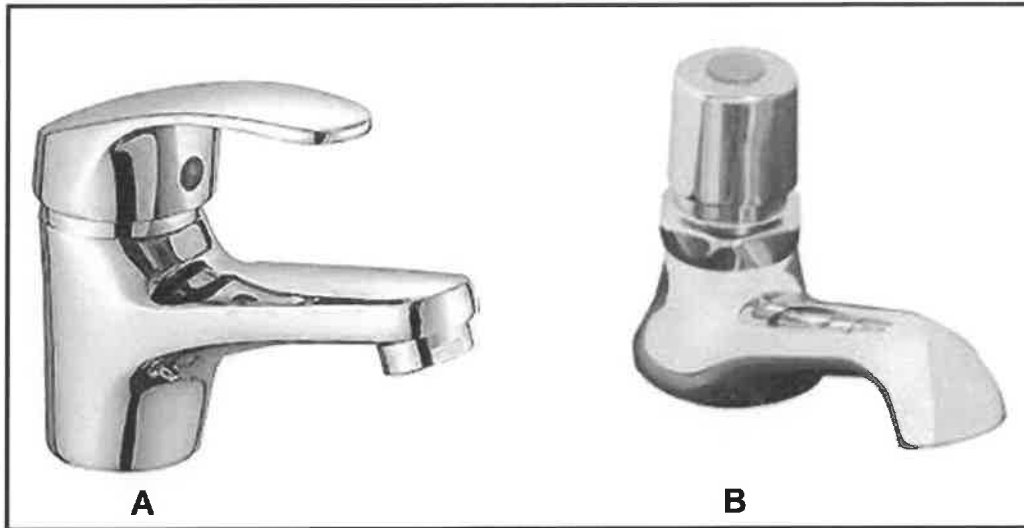

FIGURE 4.8
4.8 FIGURE 4.8 below shows TWO taps.